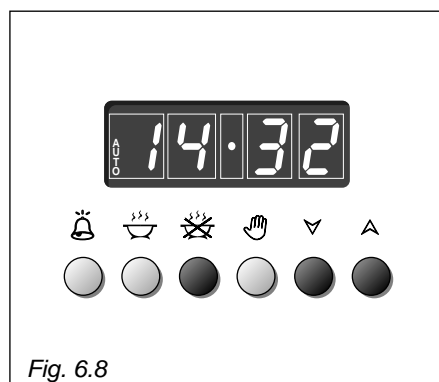

Fig. 6.8
2. Set the time you need the food to stop cooking by pushing the  button and the  button to advance, or  to go backwards if you have passed the desired time (Fig. 6.8).